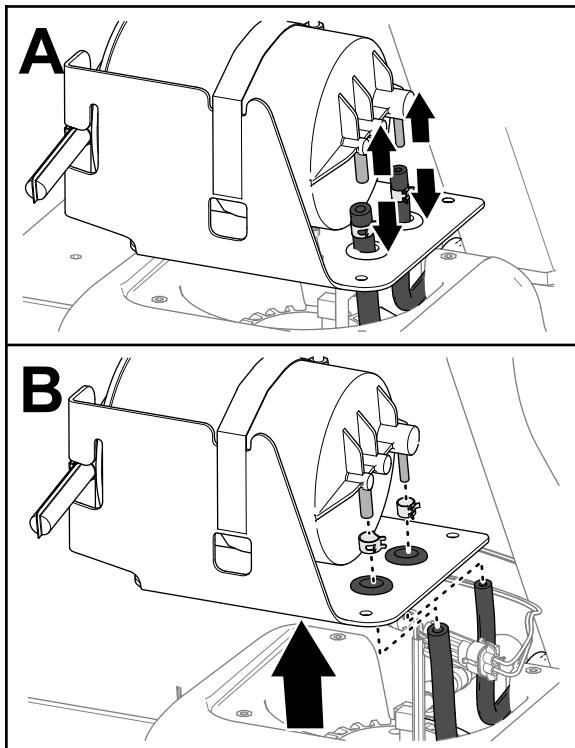

Figure 119
4. Separate the hoses from the fittings (Figure 119).
5. Remove the hose clamps from the hoses (Figure 119).
6. Remove the carbon canister from the fuel tank (Figure 119).